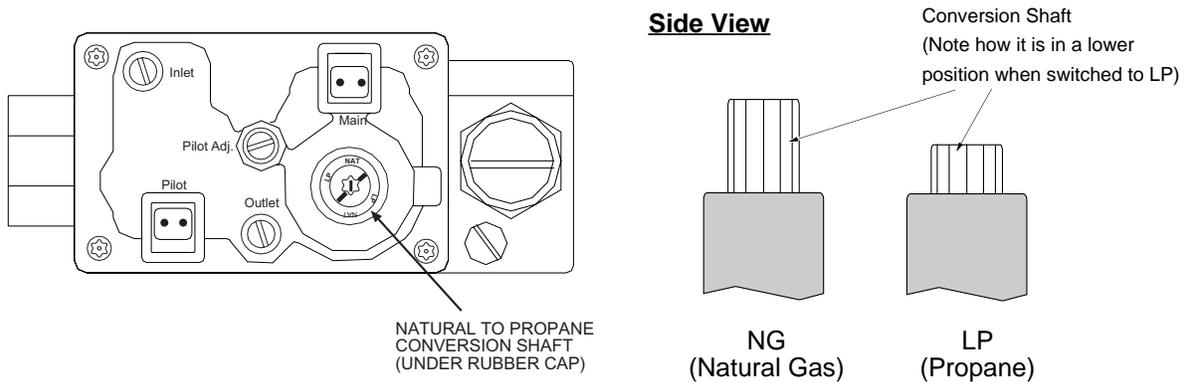

Figure 31
- The gas control valve has a propane conversion shaft that alters the outlet pressure. Remove the rubber cap over the propane conversion shaft and twist the small knob so the line points to "LP" (see Figure 31).